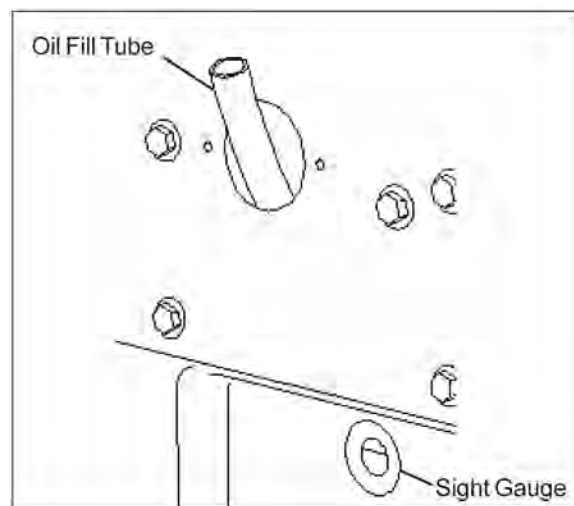

Figure 7
- a. Periodically check oil level in sight gauge on (left side of head) (refer to *Figure 7*).